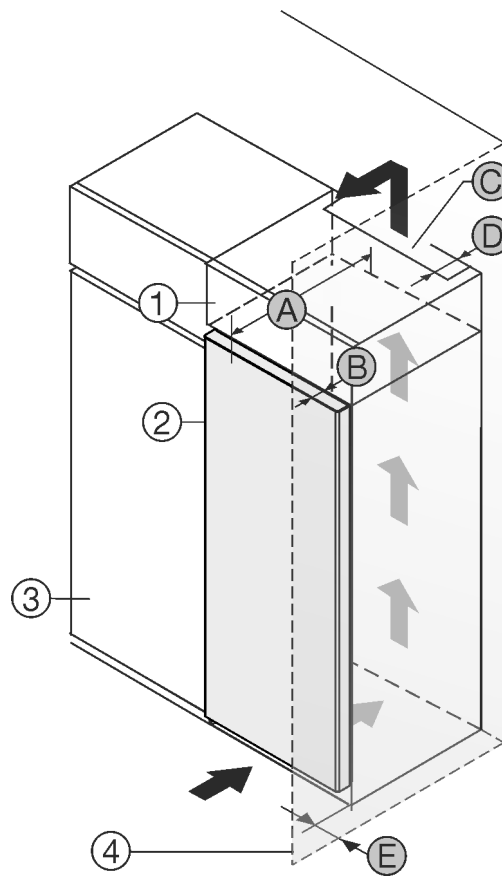

Fig. 1
- (1) Top cupboard *
- (2) Appliance *
- (3) Kitchen cabinet *
- (4) Wall *
- (A) Appliance depth *
- (B) Door depth *
- (C) Ventilation cross-section *
- (D) Distance to the rear of the appliance *
- (E) Distance to the side of the appliance *
You can place the appliance directly beside the kitchen cabinet Fig. 1 (3).*
There must be a ventilation shaft at the depth Fig. 1 (D) of the back of the top cupboard over the entire width of the top cupboard.*
The cross section of the ventilation gap Fig. 1 (C) must be maintained below the ceiling.*
If the appliance is set up with the hinges next to a wall Fig. 1 (4), the distance between the appliance and the wall must be at least 13 mm.*
If the appliance is set up with the hinges next to a wall Fig. 1 (4), the distance between the appliance and the wall must be at least 20 mm.*
In order to be able to fully open the door, the appliance must protrude by the depth of the door Fig. 1 (B) from the front of the kitchen cabinet. Regardless of the depth of the kitchen cabinets Fig. 1 (3) and use of wall spaces, the appliance can protrude further.*